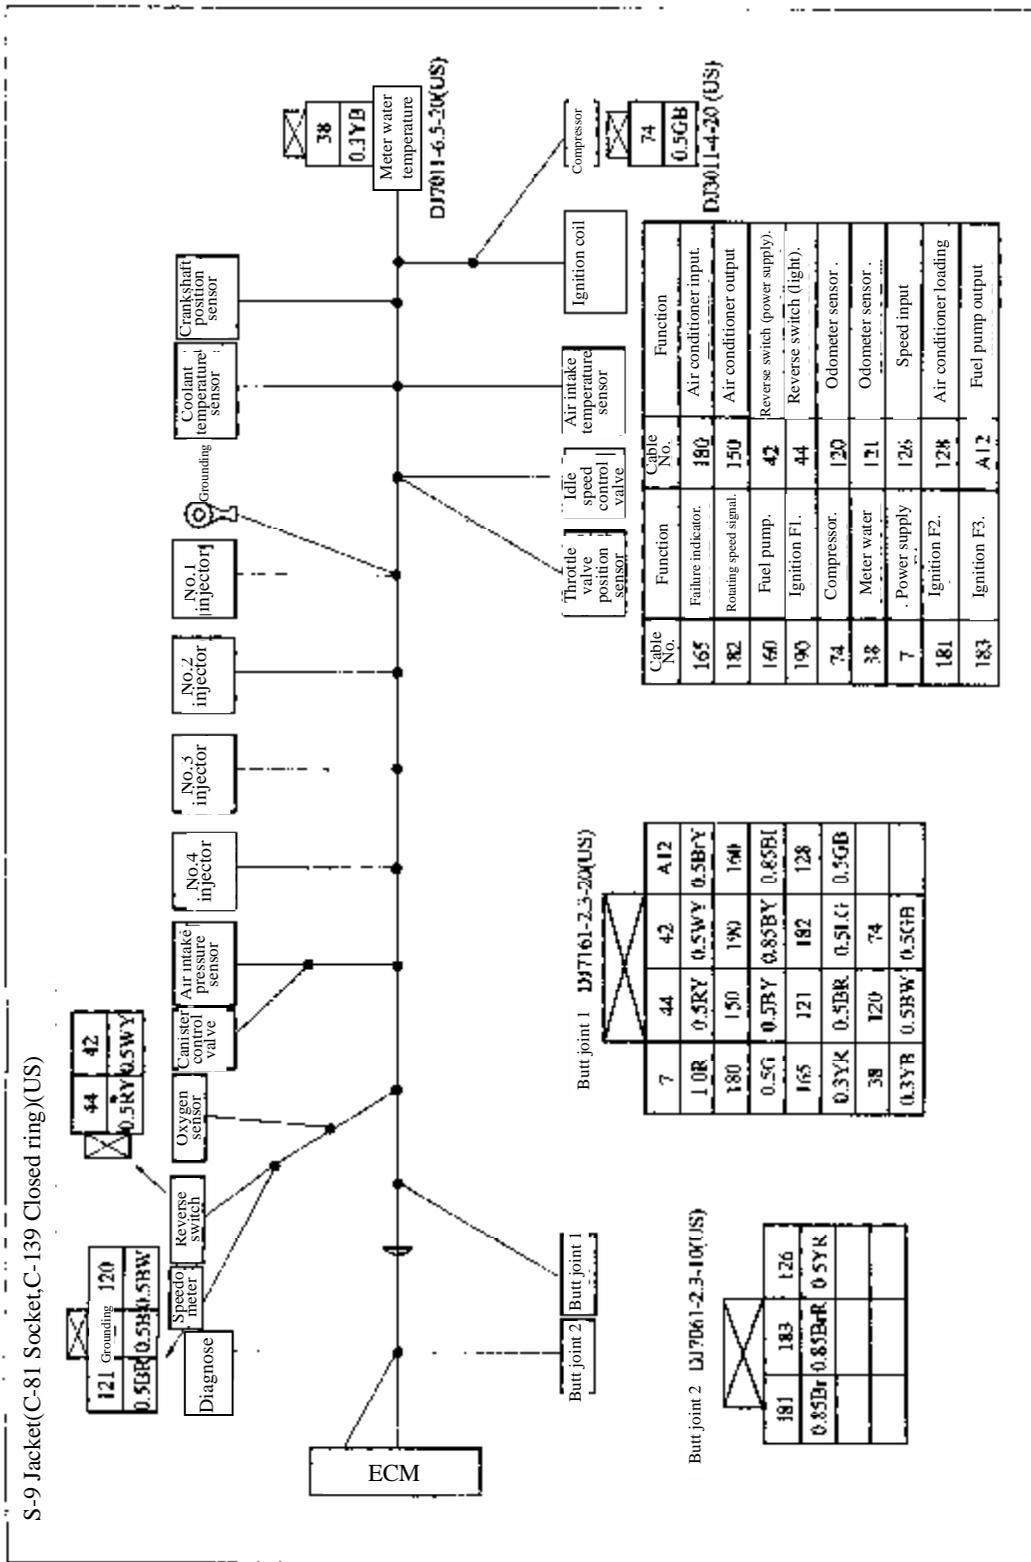

Figure 4-25 MPI Gasoline Engine System Harness Diagram for BJ491EQ1 Pick-Up and SUV
**4.2.16.2** Figure 4-25 shows multi point electronic injection gasoline engine system harness diagram for BJ491EQ1 pick-up and SUV.